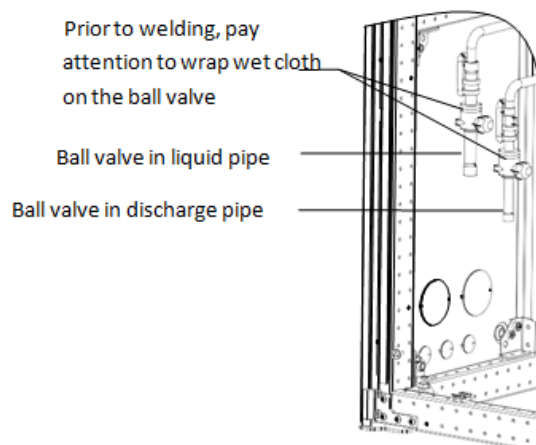

Figure 2-21 Connecting the ball valves of the discharge and liquid pipe of the indoor unit
- Use welding to connect the 2 copper pipes. The connection ball valves of the inlet and liquid pipe of the indoor unit are displayed in Figure 2-21.